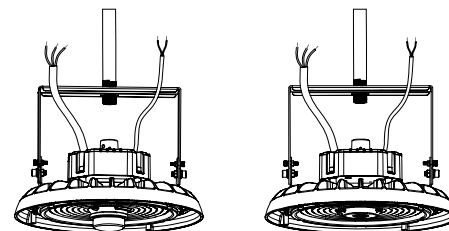

FIGURE 10
3. Re-screw the nuts (Figure 10). After installation, connect the wire of the fixture to the mains according to local wiring rules, ensure the connection is stable and protected. By adjusting the bracket screws, users can adjust 50° to the left or right vertically.